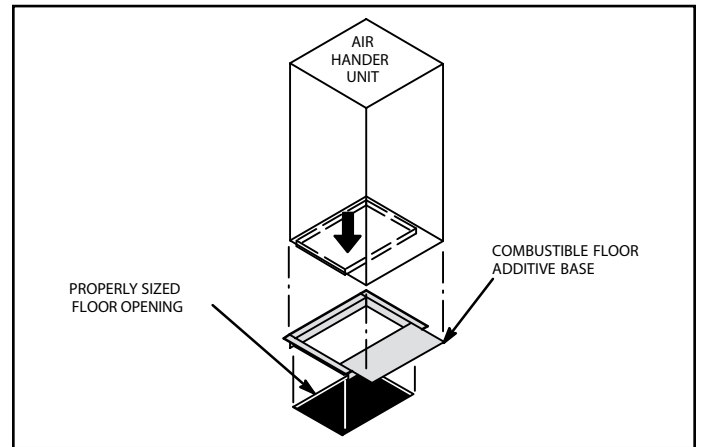

Figure 9. Downflow Combustible Flooring Base
- For downflow installation on combustible flooring, an additive base must be used as illustrated in Figure 9. Downflow combustible flooring base kit 44K15 is available for all units.